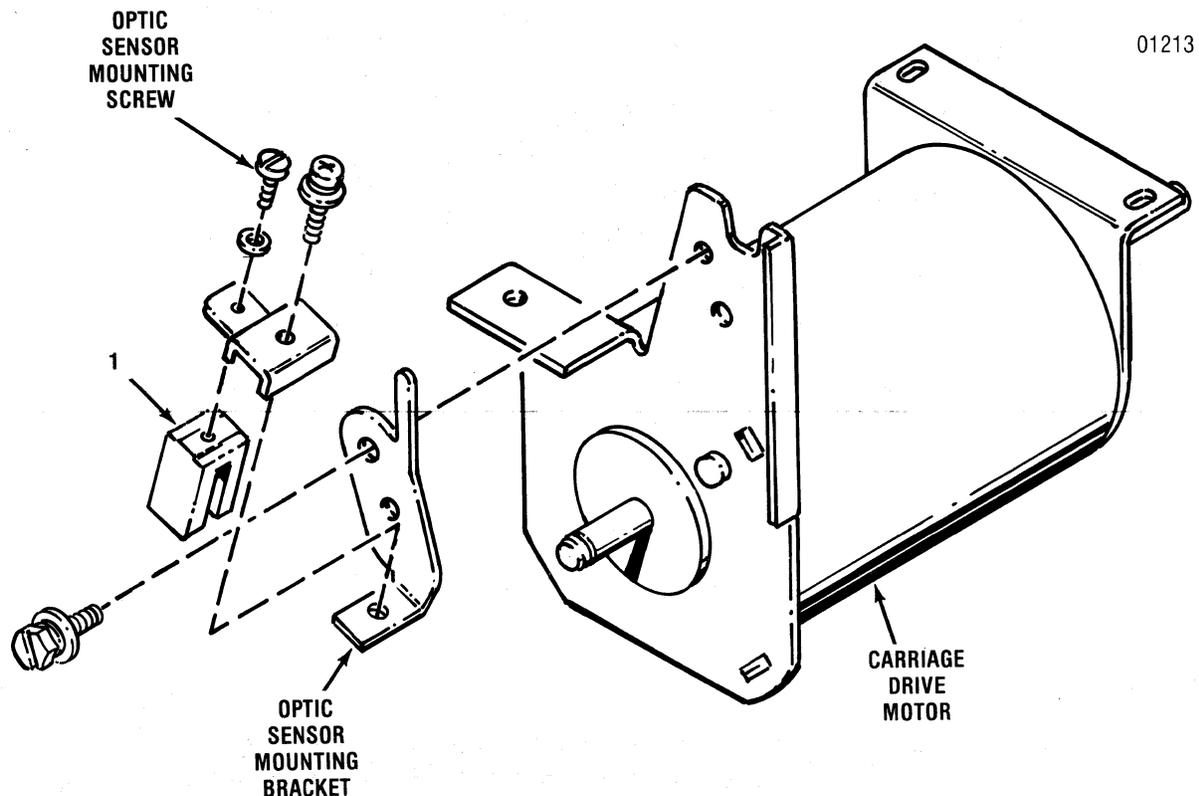

Figure 5-9. REMOVAL/REPLACEMENT, OPTIC SENSOR ASSEMBLY
The optic sensor assembly, item 1 of Figure 5-9, is attached to the carriage drive motor and is removed using a flat blade screwdriver. To remove the optic sensor assembly, refer to Figure 5-9 and perform the following steps: